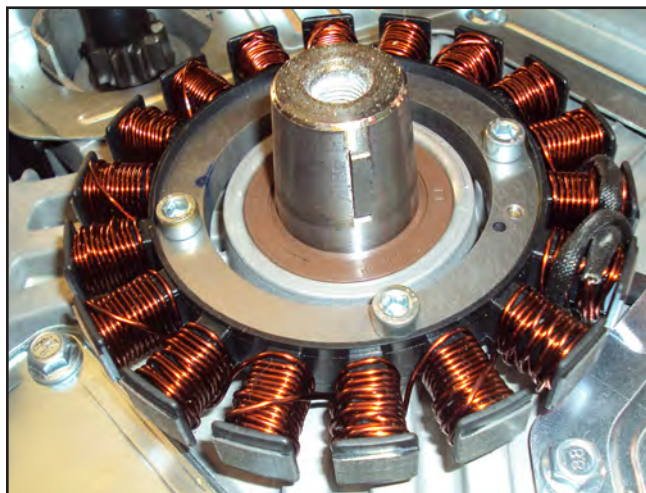

Figure 14
3. Remove the stator assembly (Figure 14).